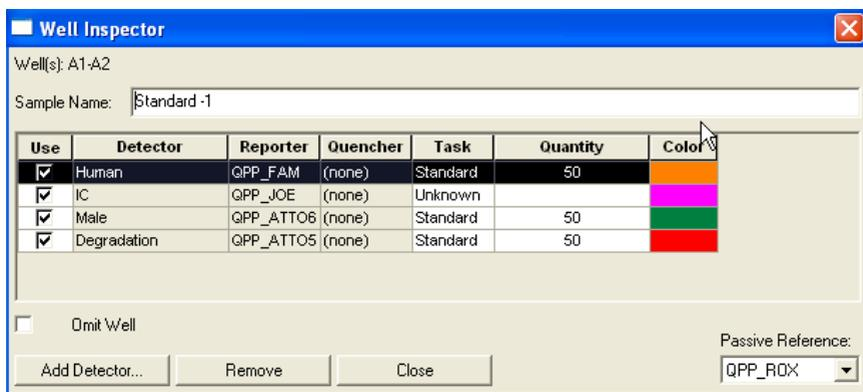

Figure 38. Well inspector.
3. Go to **View** and select **Well Inspector** from the menu (Figure 38, next page). In the **Task** column, define the wells that contain DNA standards for the QPP_FAM, QPP_ATTO550 and the QPP_ATTO647N channel as **Standard**. Name them as Standard (e.g., Standard 1 or Std1, Standard 2 or Std2, etc.), and enter the quantity of DNA in the well according to Table 11, page 56.